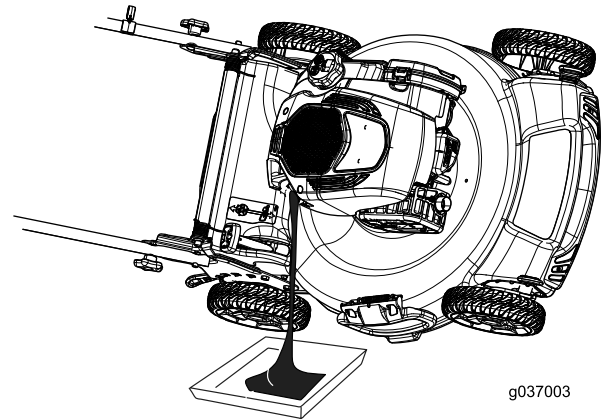

Figure 34
4. Tip the machine onto its side with the air filter up to drain the used oil out through the oil-fill tube (Figure 34).